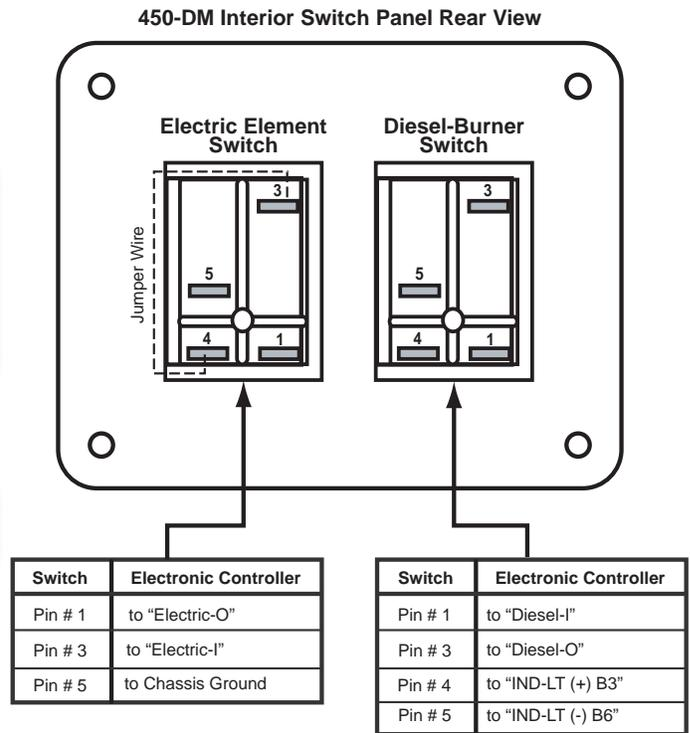

Figure 32
**NOTE:** Be sure to attach “Jumper Wires” where necessary. Reference Figures 32 and 33.
3. Connect all switch wires to the appropriate switch connections as illustrated in Figures 32 and 33. Reference Appendix A for additional wiring information.